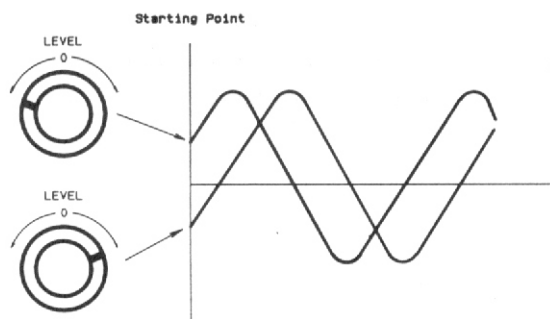

Fig. 2-5. TRIGGER LEVEL SELECTION
The signal starting point varies as shown on Figure 2-5 by turning the TRIGGER LEVEL control (30) to the left and right.